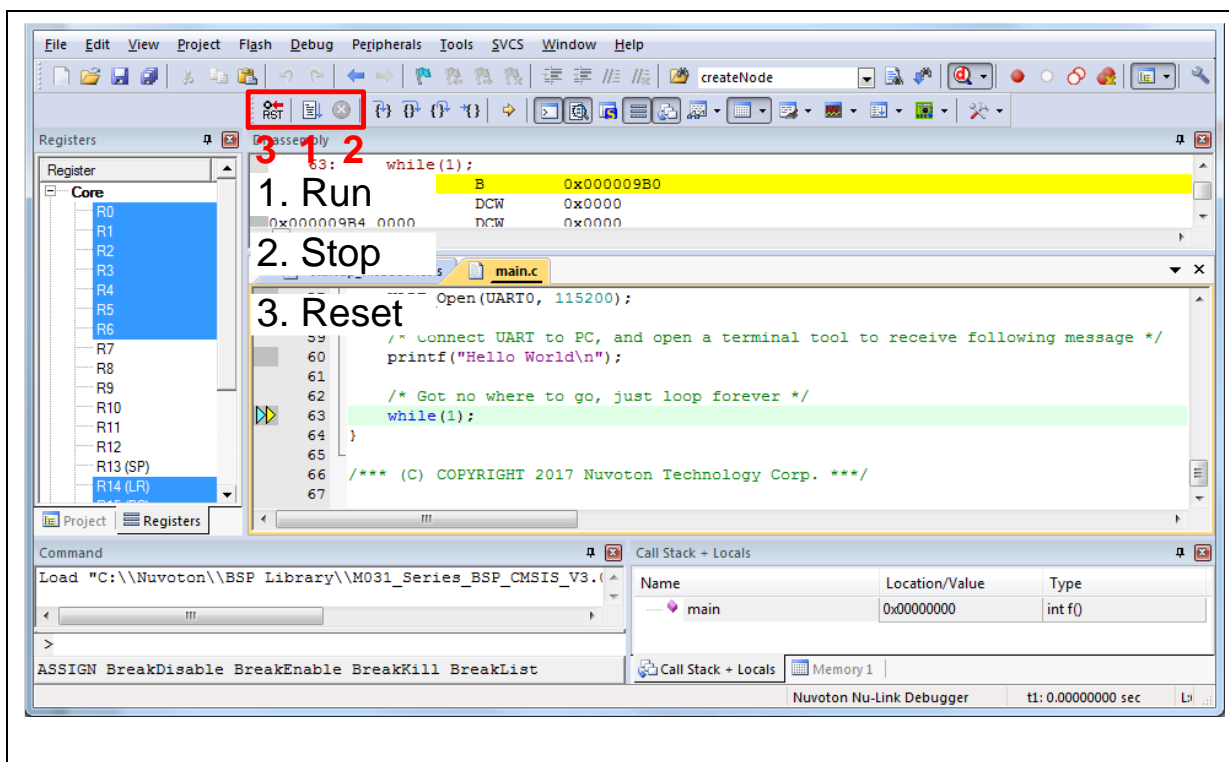
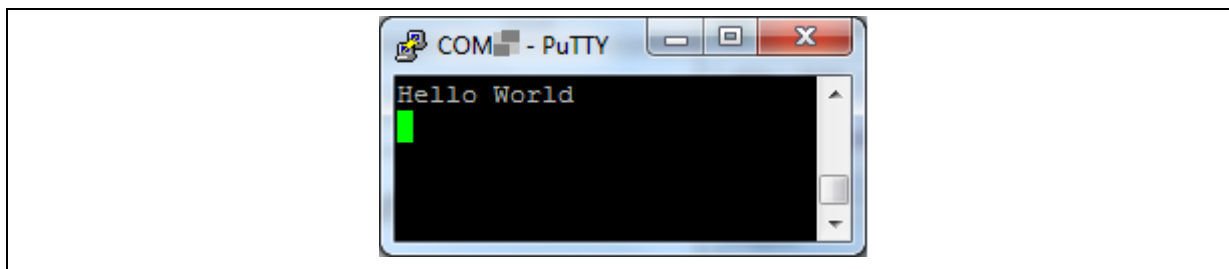

Figure 3.6-5 Keil MDK Debug Mode
Figure 3.6-6 Debug Message on Serial Port Terminal Windows
4. Figure 3.6-5 shows the debug mode under Keil MDK. Click “Run” and the debug message will be printed out as shown in Figure 3.6-6. User can debug the project under debug mode by checking